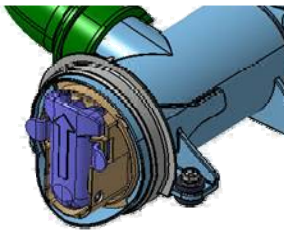

Fig. 1
- ↪ For appliances manufactured with the new filter knob: open the flap at the bottom of the front panel. The filter knob is as shown in fig. 1